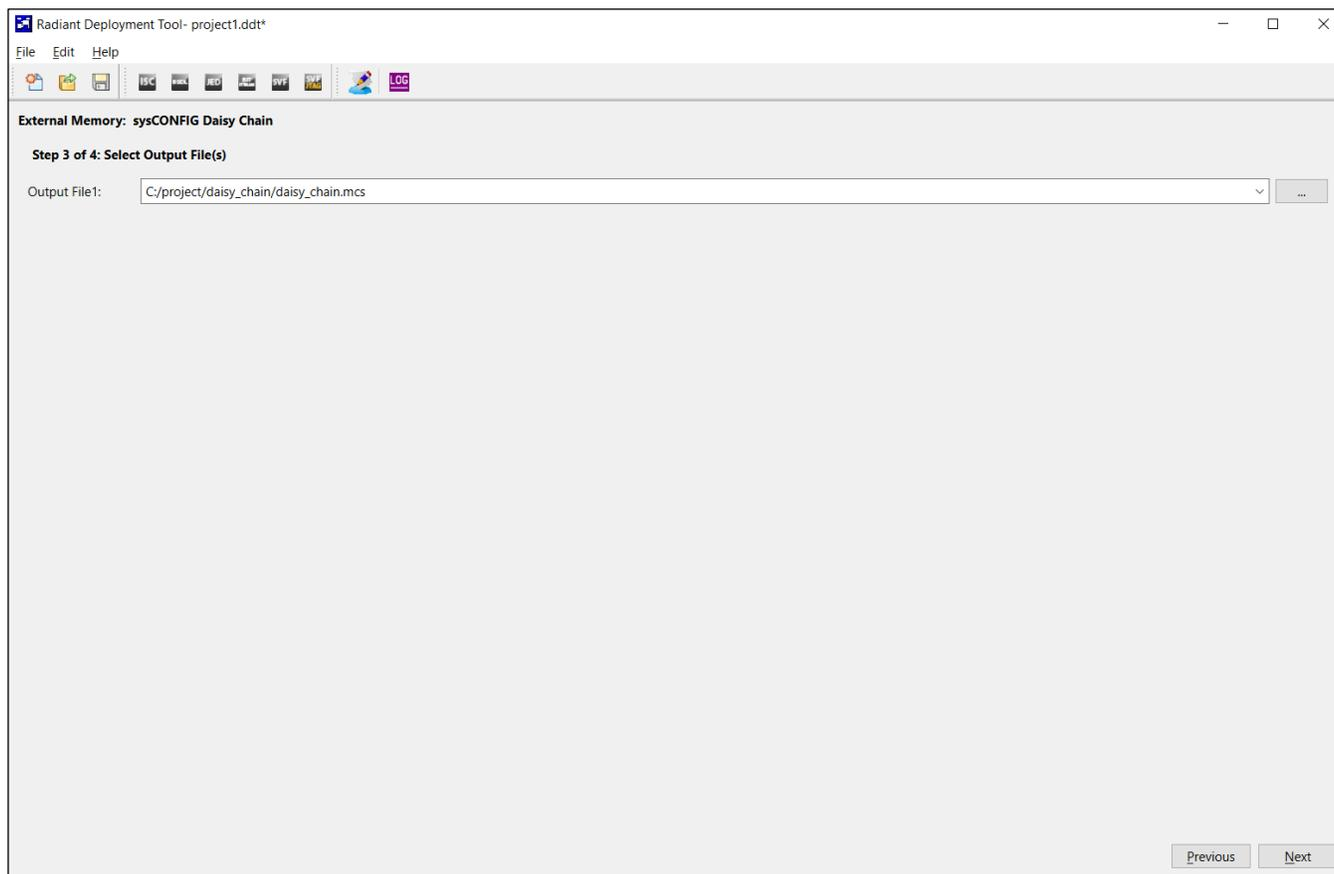

Figure 9.4. Select Output File(s) Window
Step 3 of 4: Select Output File(s) window (Figure 9.4)